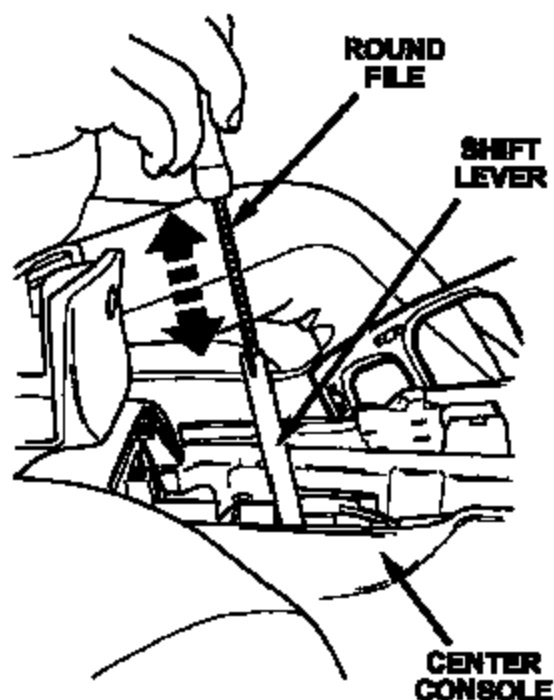

Figure 5
14. For vehicles that had the dimple drilled out, use a small round file to remove any remaining metal burrs from the inside of the shift lever at the hole drilled in Step 9 (Figure 5).